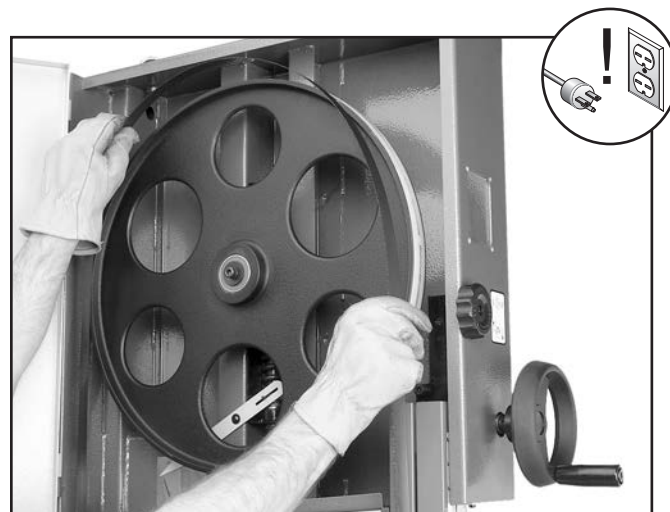

Figure 74. Placing blade on the wheels.
3. Slip the blade through the blade guides, and mount it on the upper and lower wheels (see **Figure 74**).